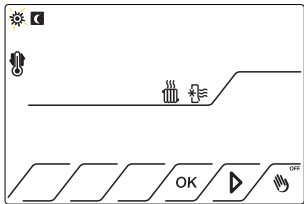

Fig.6
3.1.2 Press . Fig.6
3.2.2 Press . Fig.6
4.1.2 Press  Fig.6